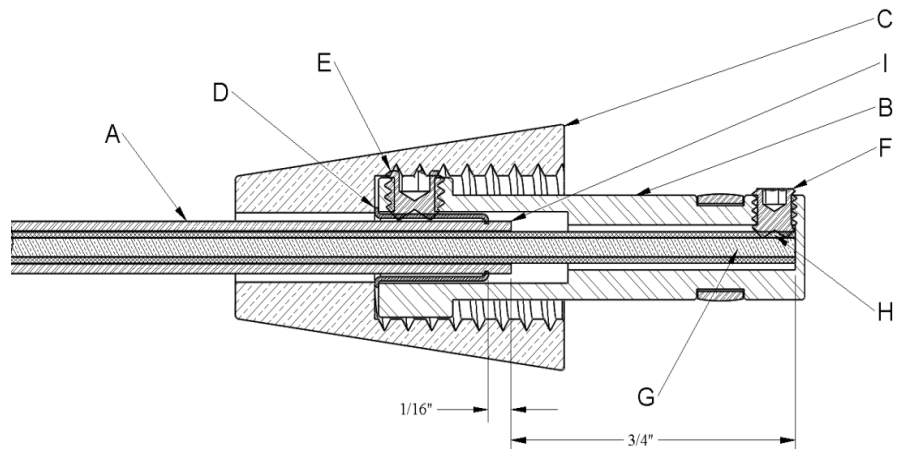

Figure 1 - Coaxial Cable and Connector Assembled
TO INSTALL TRACK ADAPTER (Figure 1)
(Figure 1)
1. The outer braided shield (I) of the coaxial cable (A) is stripped back 3/4" as shown in Figure 1.
2. The M3 Set Screw (F) is tightened until "Tight", when the 1.5MM Allen Wrench starts to flex.
3. The M4 Set Screw (E) is tightened inward until it no longer causes an interference with the Conical Nipple (C). It will begin to crush the Strain Relief Tube (D).